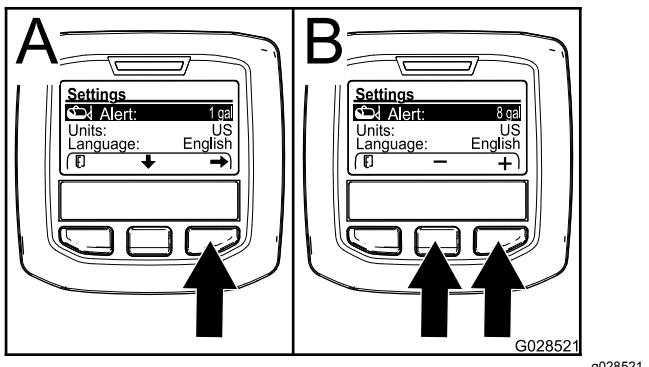

Figure 70
2. Press the center selection button to highlight the Alert setting (Figure 70).
3. Press the right selection button (Figure 70).
4. Use the center or right selection buttons to enter the minimum quantity in the tank when the alert will display during sprayer operation (Figure 70).